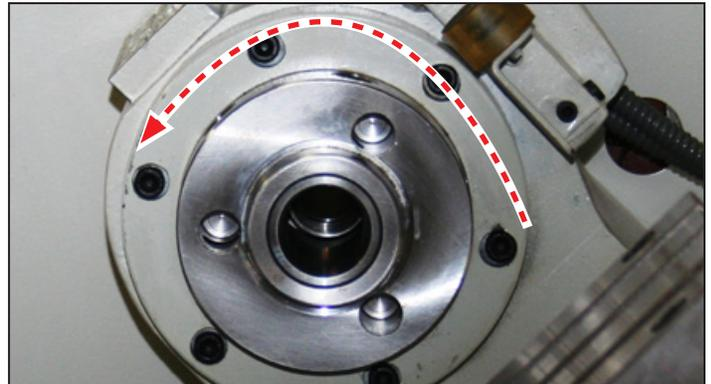

Figure 8.12
7. Confirm the spindle is rotating in the correct forward direction (see **Figure 8.12**).